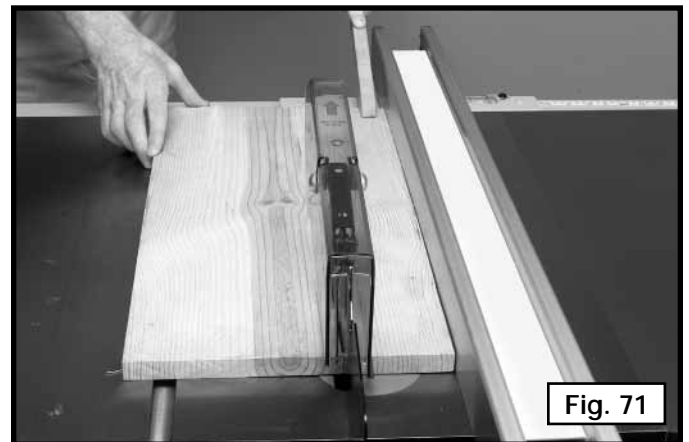

Fig. 71
3. If the size or shape of the workpiece would cause your hands to be within six inches of the saw blade, use a push stick to complete the cut (Fig. 71) The push stick can easily be made from scrap material as explained in the section "CONSTRUCTING A PUSH STICK."
If the blade adjusting mechanisms become difficult to operate, clean sawdust from the worm and sector gears (shown in Fig. 71). Apply a graphite-based lubricant that will not attract and hold dust.